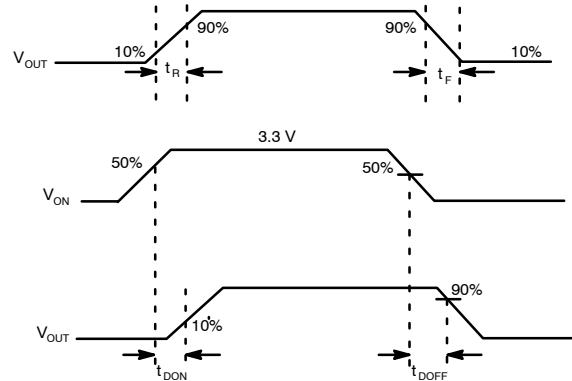

Figure 23. Timing Diagram for FPF1203/4
4. $t_{DON} / t_{DOFF} / t_R / t_F$ are defined in Figure 23.